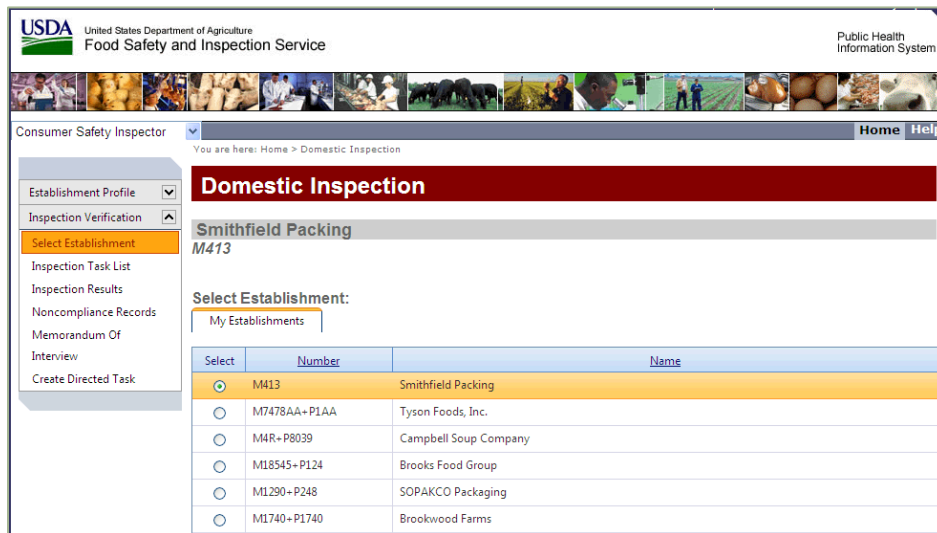

Figure 8: Inspection Verification Menu
- From the list on the Select Establishment page, you can click an establishment to view its establishment profile. The Inspection Verification menu is also available when using the PHIS – CSI component (see Figure 8: Inspection Verification Menu). Using this menu, you can work with your Inspection Task List, Inspection Results, and Noncompliance Records in much the same fashion as you do online. You can also create, edit, and print Memorandum of Interview (MOIs), except for Establishment Meeting MOIs.